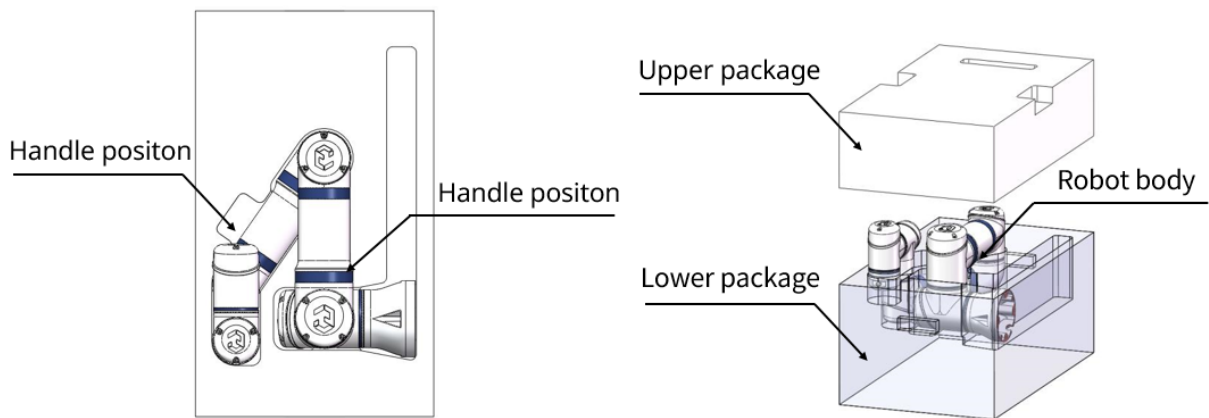

Figure 6-2 : Robot packaging diagram 2
2. A1: 180°, A2: -180°, A3: 145°, A4: -55°, A5: 180°, A6: -45°, as shown in **Figure 6-2**.